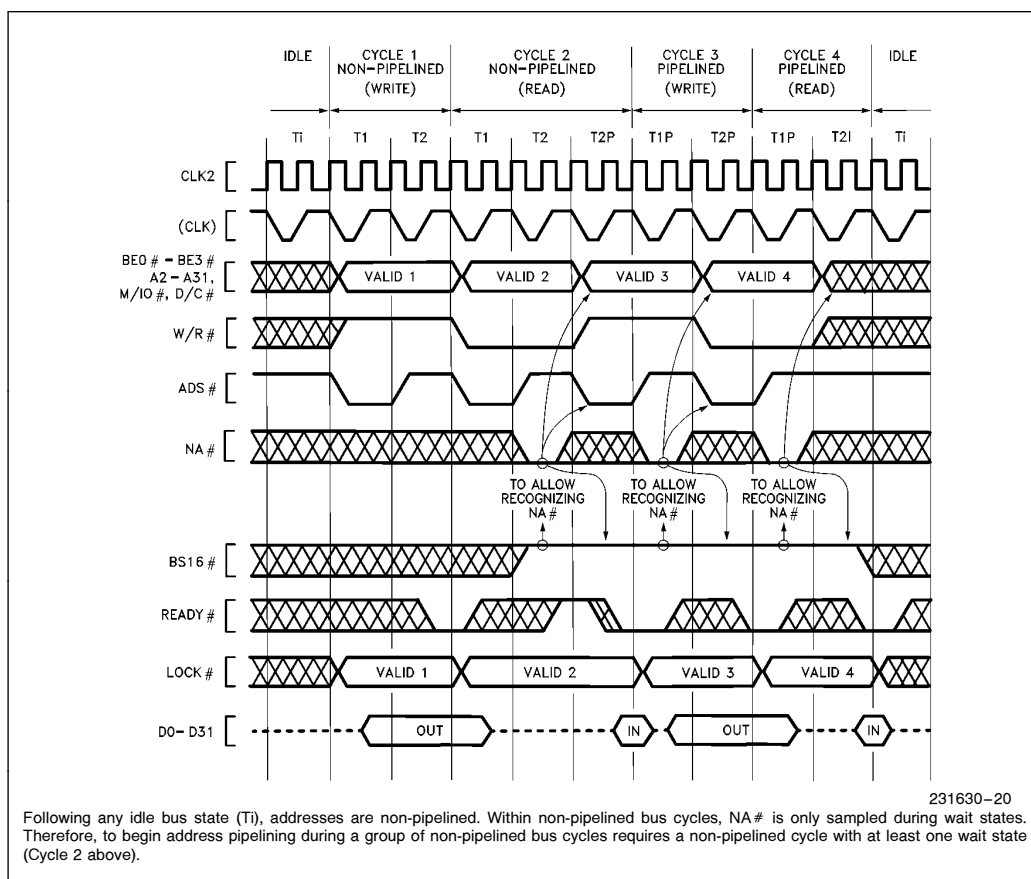
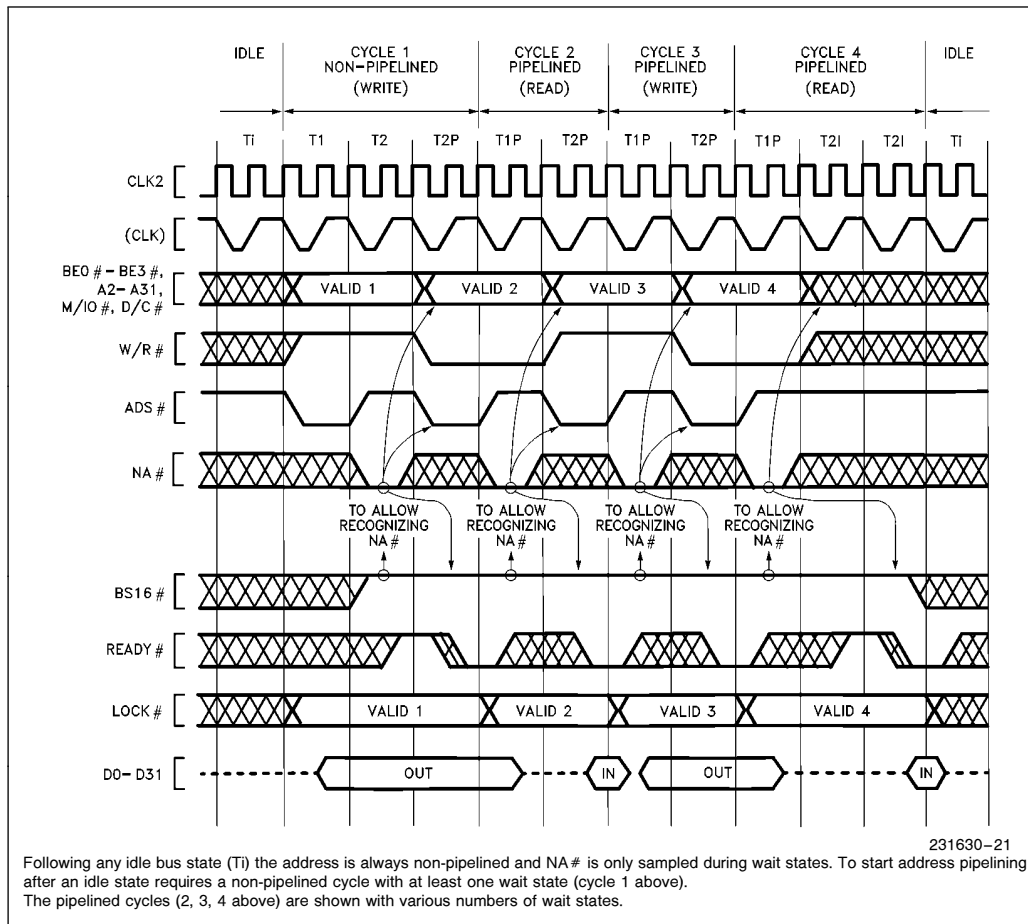
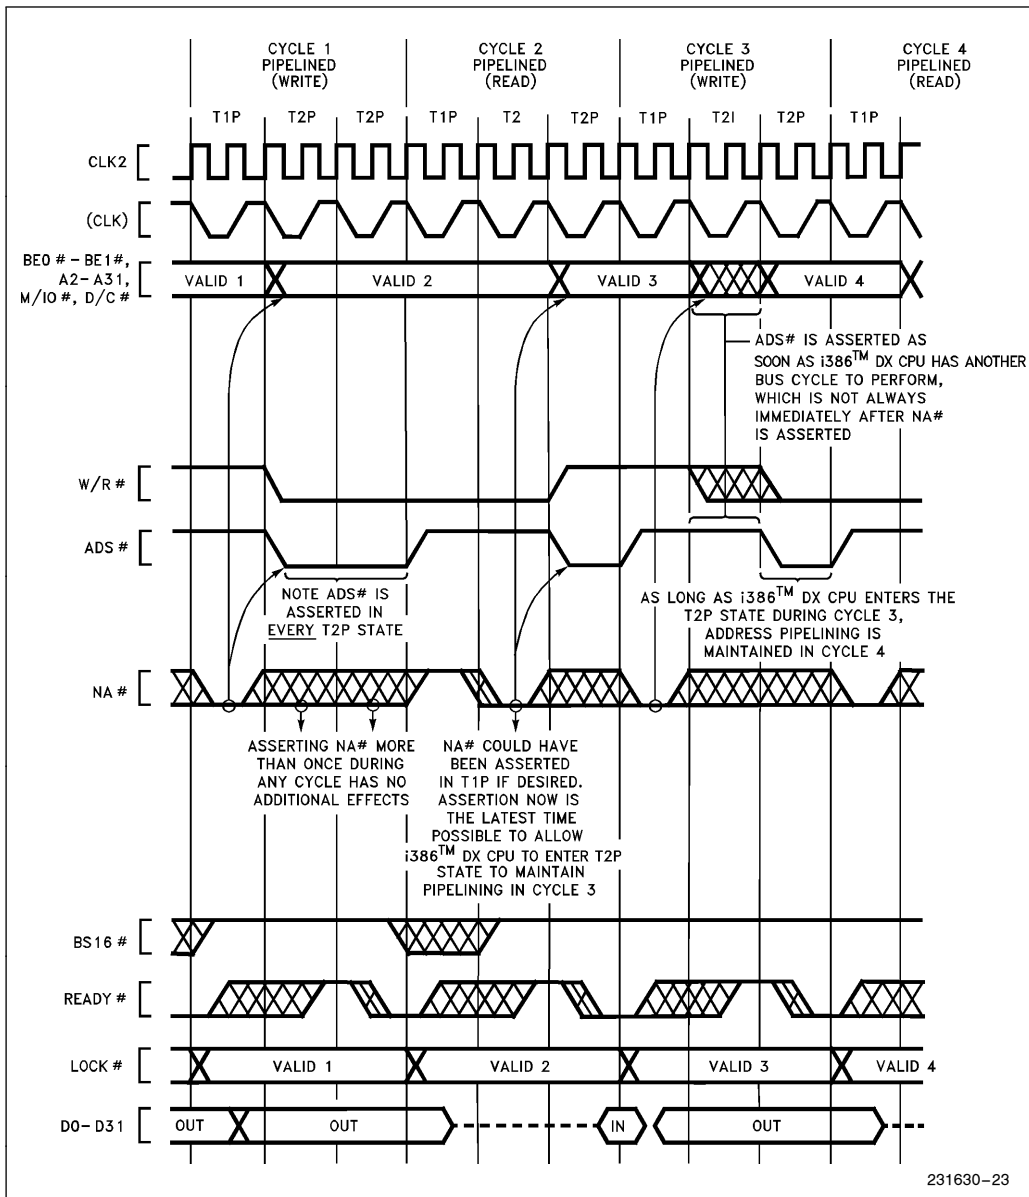

Figure 5-16. Transitioning to Pipelined Address During Burst of Bus Cycles
Figure 5-17. Fastest Transition to Pipelined Address Following Idle Bus State
Figure 5-19. Details of Address Pipelining During Cycles with Wait States
Once a bus cycle is in progress and the current address has been valid for at least one entire bus state, the $NA\#$ input is sampled at the end of every phase one until the bus cycle is acknowledged. During non-pipelined bus cycles, therefore, $NA\#$ is sampled at the end of phase one in every T2. An example is Cycle 2 in Figure 5-16, during which $NA\#$ is sampled at the end of phase one of every T2 (it was asserted once during the first T2 and has no further effect during that bus cycle).
- 1) For $NA\#$ to be sampled asserted, $BS16\#$ must be negated at that sampling window (see Figure 5-16 Cycles 2 through 4, and Figure 5-17 Cycles 1 through 4). If $NA\#$ and $BS16\#$ are both sampled asserted during the last T2 period of a bus cycle, $BS16\#$ asserted has priority. Therefore, if both are asserted, the current bus size is taken to be 16 bits and the next address is not pipelined.
- 2) The next address may appear as early as the bus state after NA# was sampled asserted (see Figures 5-16 or 5-17). In that case, state T2P is entered immediately. However, when there is not an internal bus request already pending, the next address will not be available immediately after NA# is asserted and T2I is entered instead of T2P (see Figure 5-19 Cycle 3). Provided the current bus cycle isn't yet acknowledged by READY# asserted, T2P will be entered as soon as the Intel386 DX does drive the next address. External hardware should therefore observe the ADS# output as confirmation the next address is actually being driven on the bus.
must assume the current bus size is 32 bits. Therefore if NA# is sampled asserted within a bus cycle, BS16# must be negated thereafter in that bus cycle (see Figures 5-16, 5-17, 5-19). Consequently, do not assert NA# during bus cycles which must have BS16# driven asserted. See 5.4.3.6 Dynamic Bus Sizing with Pipelined Address.
- 4) Any address which is validated by a pulse on the Intel386 DX ADS# output will remain stable on the address pins for at least two processor clock periods. The Intel386 DX cannot produce a new address more frequently than every two processor clock periods (see Figures 5-16, 5-17, 5-19).
- 5) Only the address and bus cycle definition of the very next bus cycle is available. The pipelining capability cannot look further than one bus cycle ahead (see Figure 5-19 Cycle 1).
The transition to pipelined address is shown functionally by Figure 5-17 Cycle 1. Note that Cycle 1 is used to transition into pipelined address timing for the subsequent Cycles 2, 3 and 4, which are pipelined. The NA# input is asserted at the appropriate time to select address pipelining for Cycles 2, 3 and 4.
Once a bus cycle is in progress and the current address has become valid, the NA# input is sampled at the end of every phase one, beginning with the next bus state, until the bus cycle is acknowledged. During Figure 5-17 Cycle 1 therefore, sampling begins in T2. Once NA# is sampled asserted during the current cycle, the Intel386 DX is free to drive a new address and bus cycle definition on the bus as early as the next bus state. In Figure 5-16 Cycle 1 for example, the next address is driven during state T2P. Thus Cycle 1 makes the transition to pipelined address timing, since it begins with T1 but ends with T2P. Because the address for Cycle 2 is available before Cycle 2 begins, Cycle 2 is called a pipelined bus cycle, and it begins with T1P. Cycle 2 begins as soon as READY# asserted terminates Cycle 1.
Example transition bus cycles are Figure 5-17 Cycle 1 and Figure 5-16 Cycle 2. Figure 5-17 shows transition during the very first cycle after an idle bus state, which is the fastest possible transition into address pipelining. Figure 5-16 Cycle 2 shows a transition cycle occurring during a burst of bus cycles. In any case, a transition cycle is the same whenever it occurs: it consists at least of T1, T2 (you assert NA# at that time), and T2P (provided the Intel386 DX has an internal bus request already pending, which it almost always has). T2P states are repeated if wait states are added to the cycle.
Note three states (T1, T2 and T2P) are only required in a bus cycle performing a **transition** from non-pipelined address into pipelined address timing, for example Figure 5-17 Cycle 1. Figure 5-17 Cycles 2, 3 and 4 show that address pipelining can be maintained with two-state bus cycles consisting only of T1P and T2P.
Once a pipelined bus cycle is in progress, pipelined timing is maintained for the next cycle by asserting NA# and detecting that the Intel386 DX enters T2P during the current bus cycle. The current bus cycle must end in state T2P for pipelining to be maintained in the next cycle. T2P is identified by the assertion of ADS#. Figures 5-16 and 5-17 however, each show pipelining ending after Cycle 4 because Cycle 4 ends in T2I. This indicates the Intel386 DX didn't have an internal bus request prior to the acknowledgement of Cycle 4. If a cycle ends with a T2 or T2I, the next cycle will not be pipelined.